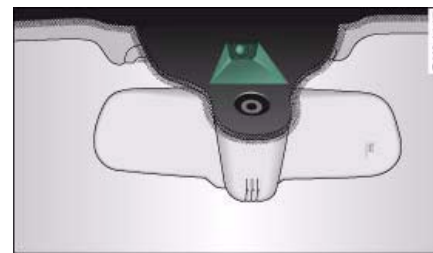

Fig. 159 Windscreen: Camera window for Audi lane assist
- Make sure that the camera window $\Rightarrow$ page 145, fig. 159 is not covered with stickers or similar objects.
- The outside of the camera window ⇒ *page 145*, fig. 159 is dirty or frosted. Please remove dirt or ice from this area of the wind-screen.